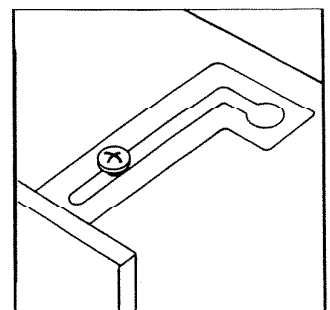

FIGURE 16
4. Slide master panel to the right, then forward until panel is flush with the wall. See Figure 16.